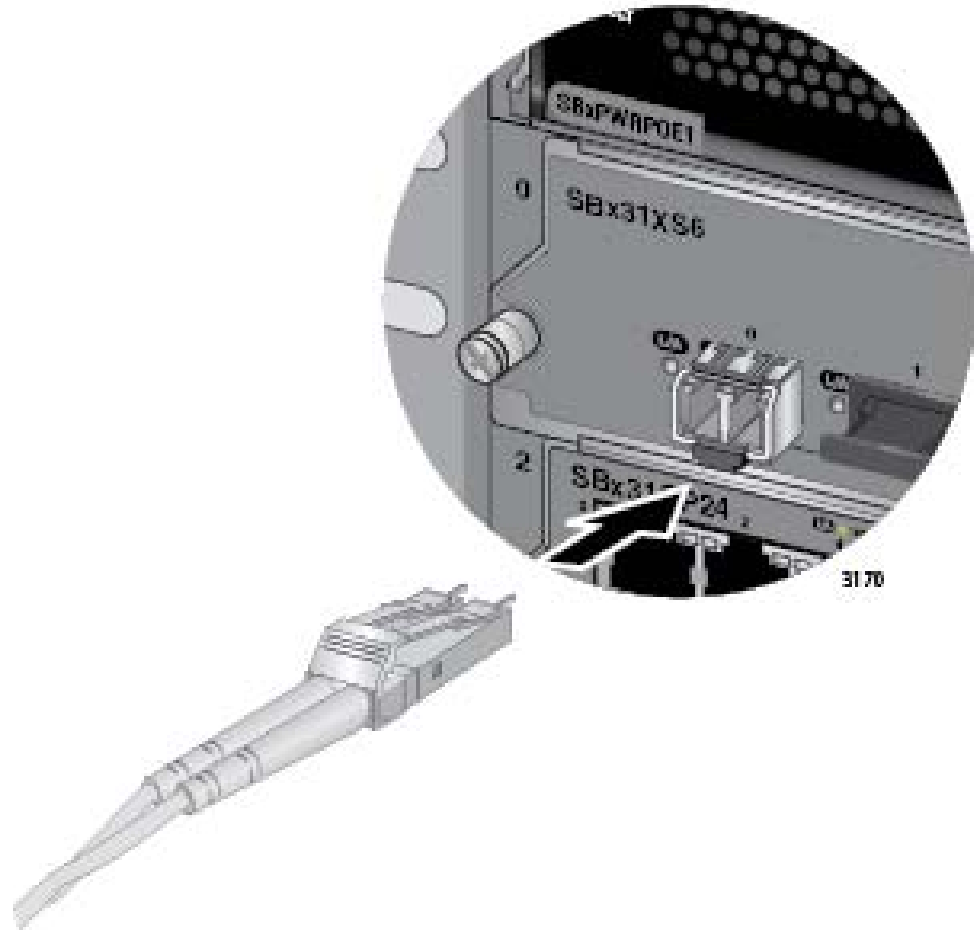

Figure 96. Attaching a Fiber Optic Cable to an SFP+ Transceiver in the AT-SBx31XS6 Line Card
5. Connect the fiber optic cable to the port on the transceiver, as shown in Figure 96 on page 158. The connector should snap into the port.